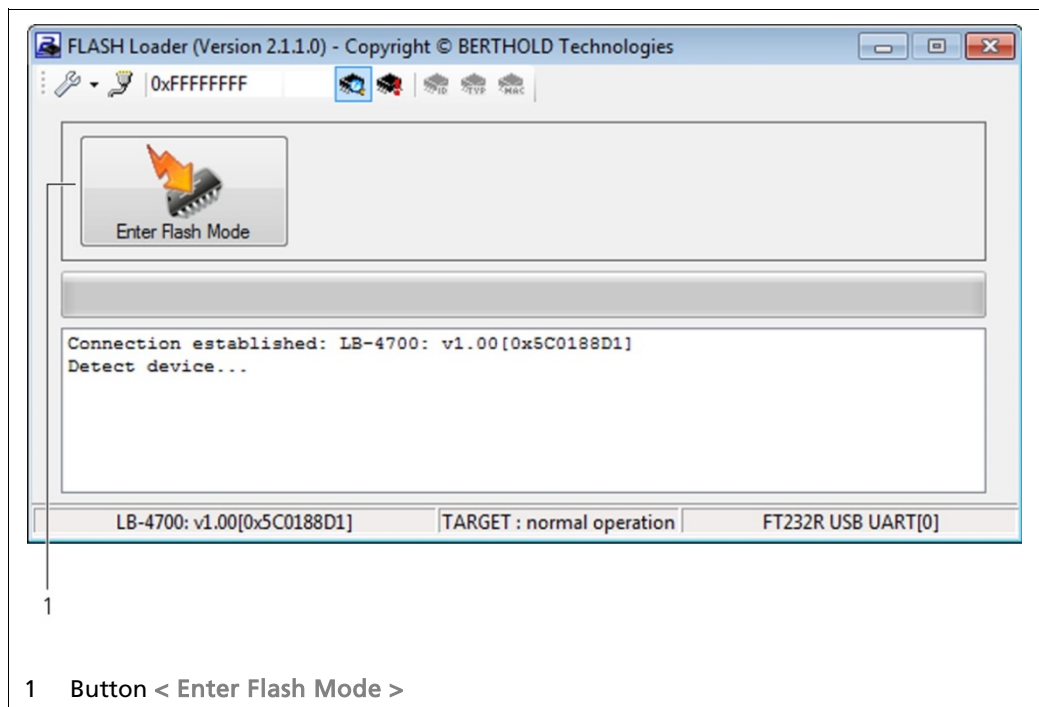

Fig.14 Flash Loader Connection
11. Click on the button <Enter Flash Mode> (Fig.14, item 1).